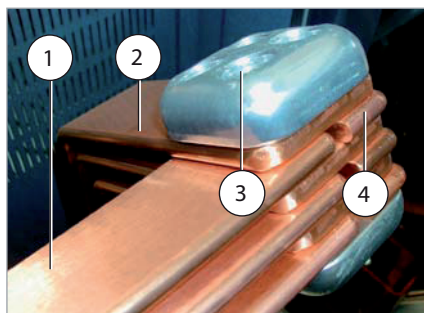
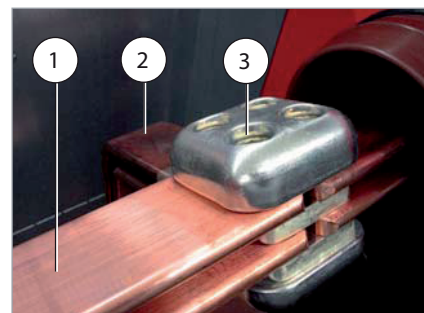

Figure 52
Figure 53
2. Screw-fasten busbars to the feeder bars as shown in Figure 52 using four bolts (PIX 12, Figure 53) or four bolts and an electrode (PIX 17/24, Figure 52). Observe location of busbars and feeder bars (see Arrangement of Busbars in Branch-Circuit Panels, page 47).